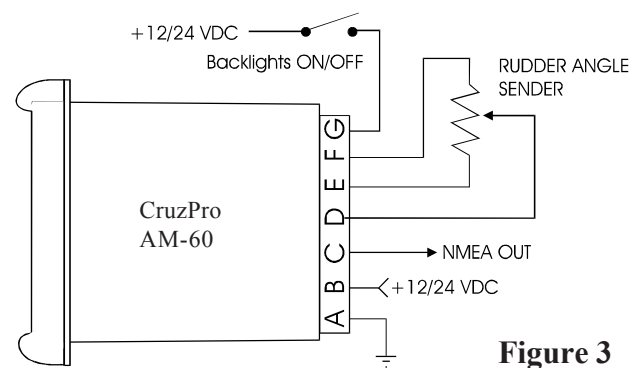
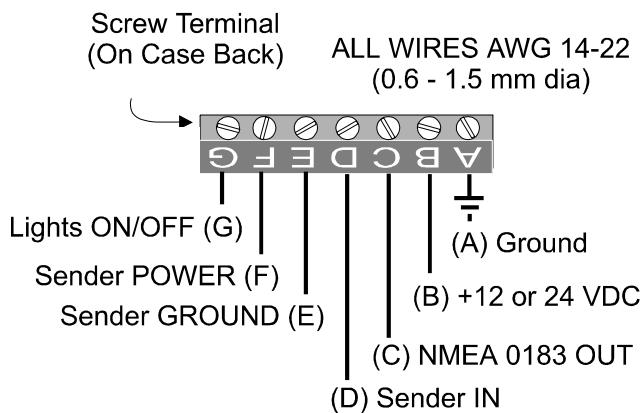

Figure 3
Figure 2
- Carefully check all your wiring against those shown in Figures 2 and 3. If everything is wired correctly you can mount the AM60 in the instrument hole. Be sure the bulkhead gasket is in place and use only finger tension to tighten the bracket hold-down nuts. *Do not overtighten the bracket or you may damage the case - do not use tools to tighten the nuts.*
- Bring the wires out the mounting hole and make the connections to the screw terminal on the instrument case back as shown in Figure 2 and Figure 3.